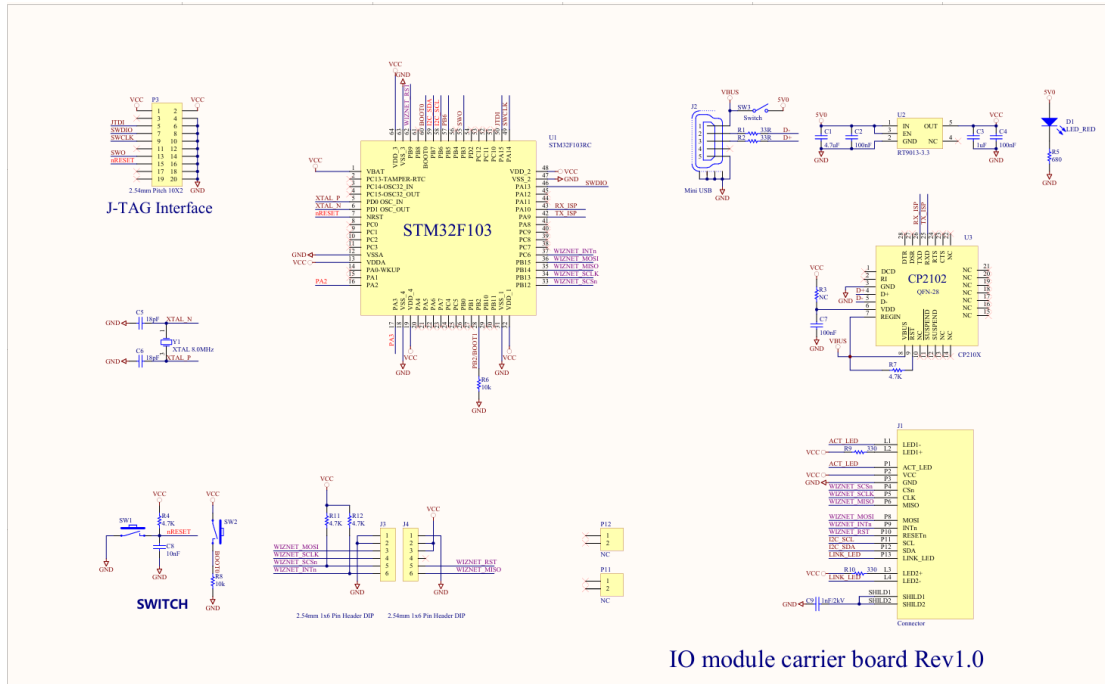

Figure 2-4:Reference design schematic diagram of the peripheral circuit of WIZ-IP55
- The reference design schematic diagram of the peripheral circuit for WIZ-IP55 is shown in Figure2-4.